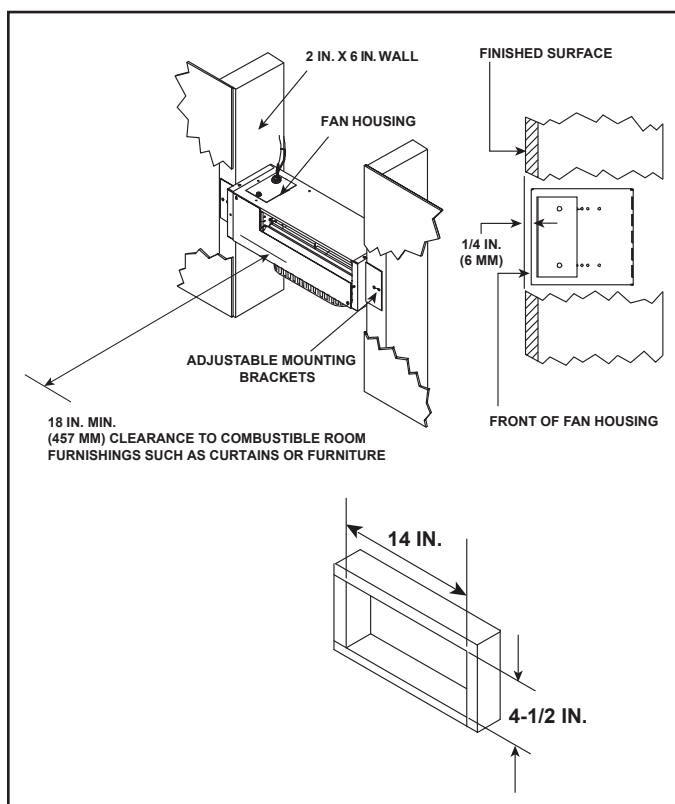
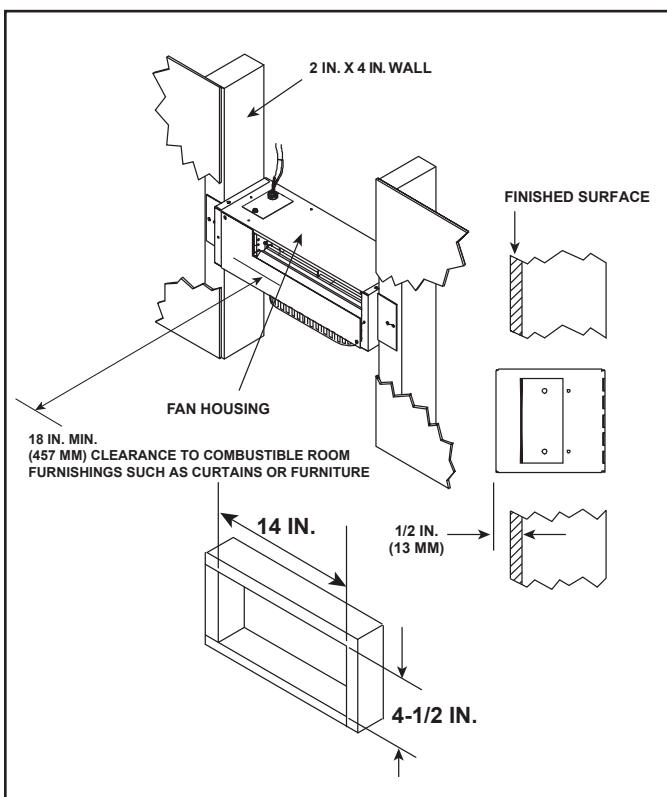

Figure 6. Wall Mounting (2 X 6)
Figure 7. Wall Mounting (2 X 4)
**Note:** A minimum clearance of 18 inches to any combustible materials or combustible surfaces such as room furnishings, furniture, curtains, etc., is required from the fan housing air outlet. Plan for this clearance prior to installation of the Heat-Zone-Primo kit. See Figure 6 and Figure 7.
Mount and secure the fan housing assembly to framing members so the front surface is 1/4 -in. (6 mm) below the finished wall. Use the adjustable mounting brackets and screws provided in the kit. See Figure 6 and Figure 7.
**Note:** The brackets can be rotated 180° and mounted to the back side of the 2 x 4 if necessary. See Figure 7.
If the fan housing is installed in a 2 x 4 wall, the front of the housing will protrude approximately 1/2 in. (13 mm) out of the wall without the drywall template. See Figure 7.